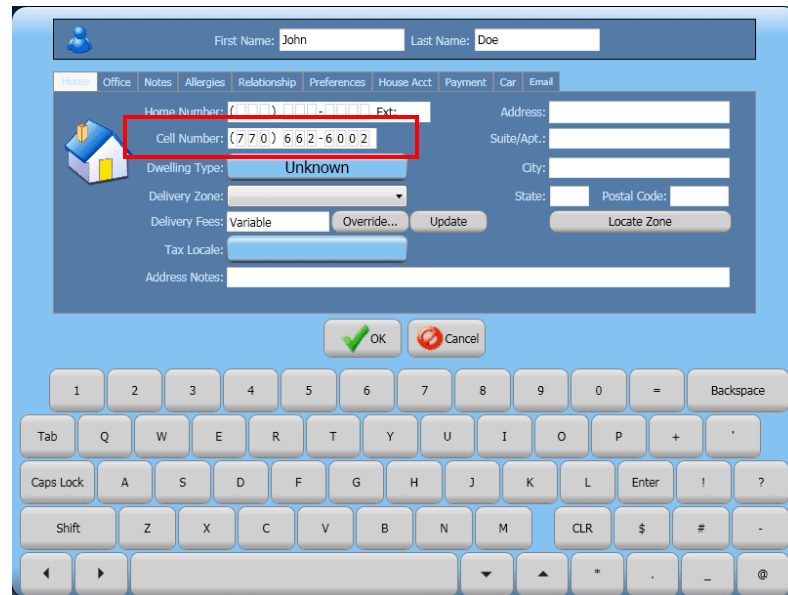

Figure 41 Guest Record Screen
1. Start an **order** in Aloha Takeout. If the guest is not already entered into the system, the guest record appears \(Figure 41\).